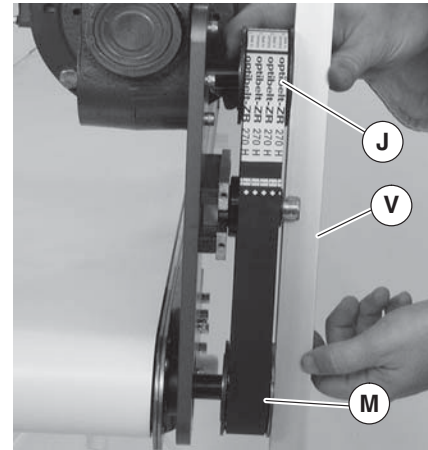
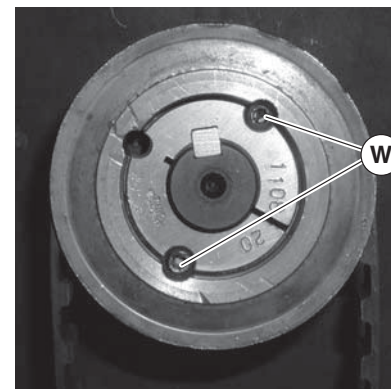

Figure 8
Figure 9
- Wrap timing belt (Q) around driven pulley (M) and drive pulley (J). Install driven pulley (M) onto conveyor shaft.
- Using a straight edge (Figure 8, item V), align driven pulley (M) with drive pulley (J). Tighten driven pulley taper-lock screws (Figure 9, item W).